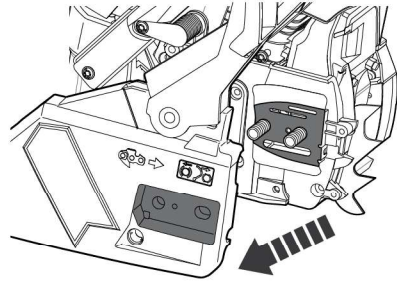

Fig. 3
- > Remove the cover and spacer plate from the bolts (19) (the spacer plate is not to be re-fitted)(Fig. 3).